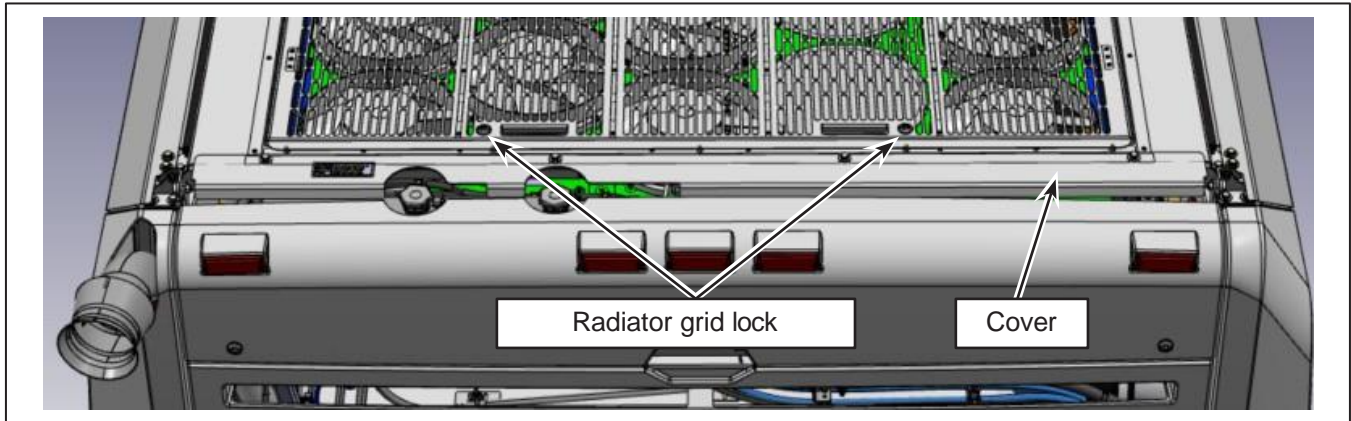

Figure 2 - Radiator Grid
- 1.6. Turn the lock and open the radiator grid. Retain the grid and hardware. See Figure 2.
- 1.7. If required to access the EGR coolant hose split block remove the cover located between the radiator and the surge tank. A double face foam affix a portion of the cover. Retain the cover and hardware. See Figure 2.